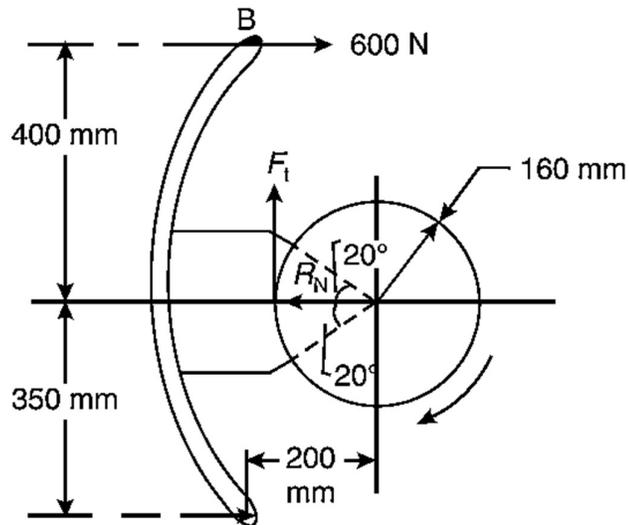

Figure 15b
- (b) Figure 15b shows a brake shoe applied to a drum by a lever AB (16) 4 AP which is pivoted at a fixed-point A and rigidly fixed to the shoe. The radius of the drum is 160 mm. The coefficient of friction at the brake lining is 0.3. If the drum rotates clockwise, find the braking torque due to the horizontal force of 600 N at B.